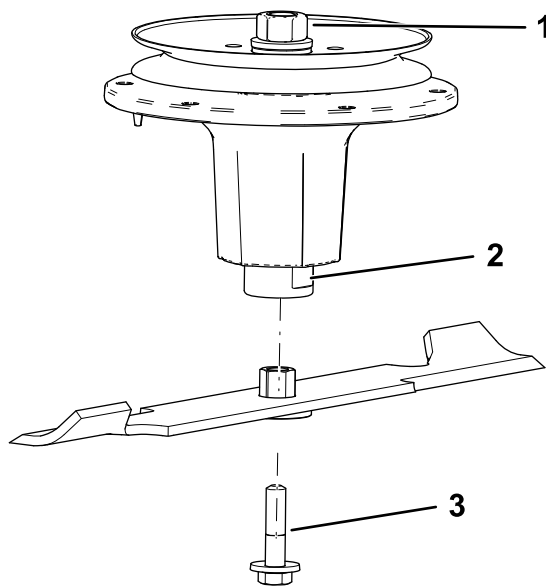

Figure 87
2. Install the bushing/blade assembly into the spindle shaft (Figure 87).